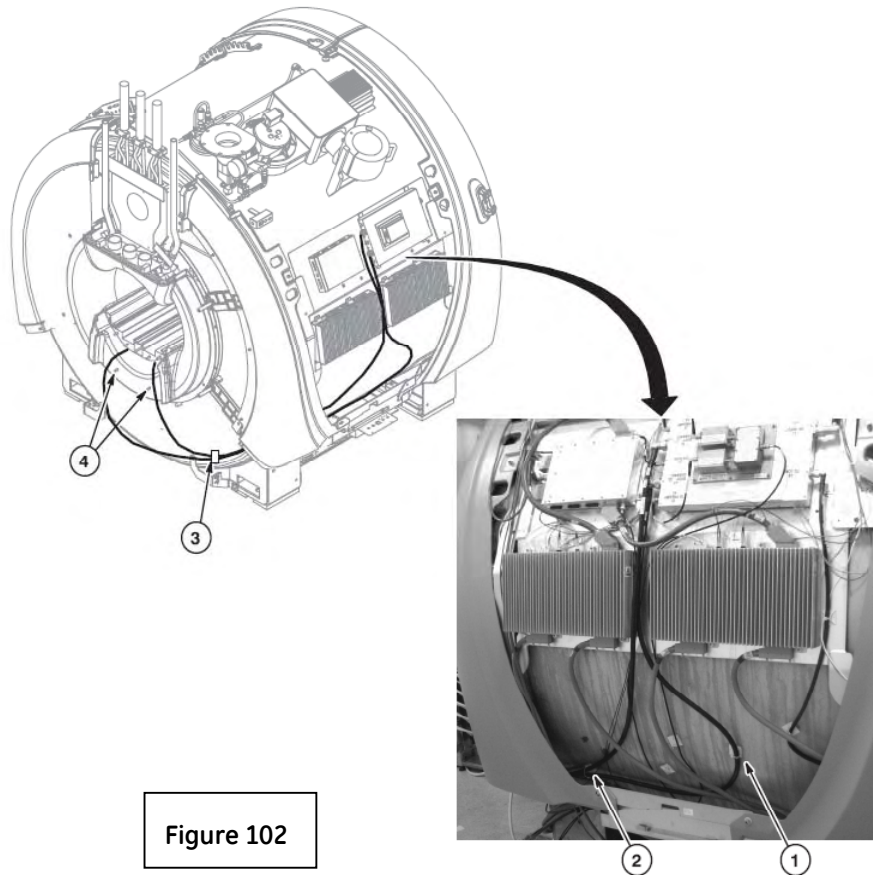

Figure 102
- E. Connect cable Run M1322 (5267796) from Hybrid J4 to MAG-BORE-J2 (connector on service end of RF tube). Secure the Run 1322 cable (also referred to as "I" cable) to the side of the magnet with a cable tie. **(Fig 102)**
- F. Connect cable Run M1323 (5267796-2) from Hybrid J3 to MAG-BORE-J3 (connector on service end of RF tube). Secure the Run 1323 cable (also referred to as "Q" cable) to the side of the magnet with a cable tie as indicated in Figure 8a, Item 2. Route both the I & Q cables to the rear of the magnet and tie-wrap the cables together as shown in Item 3. When connecting the cables to the connections in the RF, make sure the cables are routed to the outside of the Rear Pedestal mounting studs on the rear endbell. **(Fig 102)**